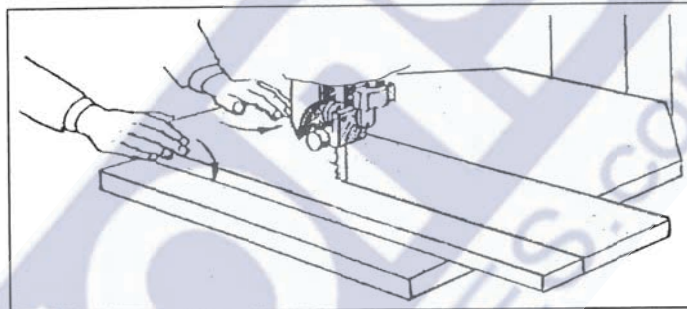

Fig. A-1 Cutting without a guide
A.3.3 On the table band saw the piece must be fed regularly and locked securely onto the table to ensure maximum control during cutting, keeping hands in a safe position (see figure A-1).